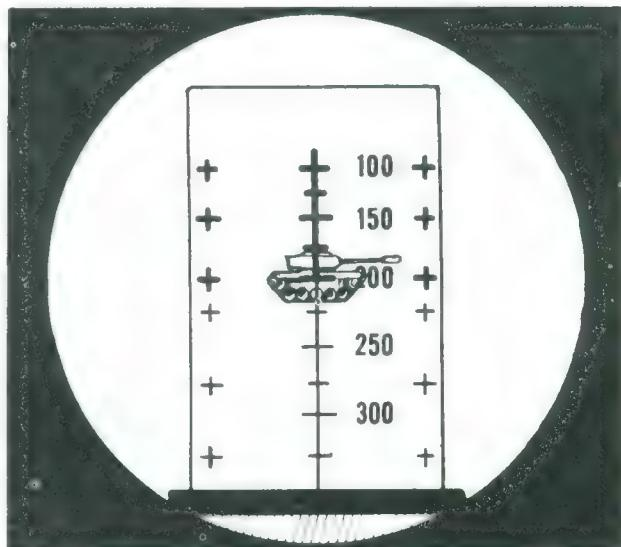

Figure 14. Stationary target at 200 meters
(1) *Stationary target.* To engage a stationary target the gunner estimates the range to the target, finds this range on the reticle, and places that point on the target's center of mass (fig. 14).